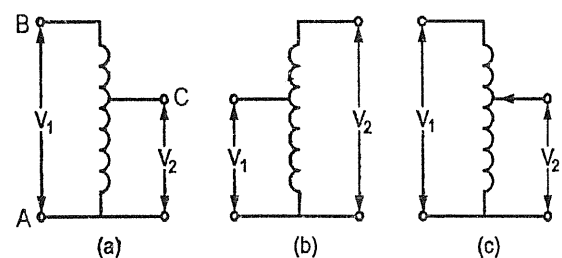

FIG. 3.37 : SYMBOL OF AUTO-TRANSFORMER (a) FIXED TAPING STEP DOWN (b) CONTINUOUSLY VARIABLE
- In figure 3.37. AB is the primary winding in which there are N_1 turns while AC is secondary winding in which there are N_2 turns.